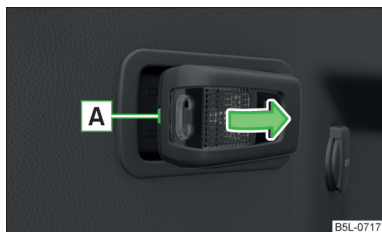

Fig. 185
- › Take out the light in the direction of arrow » Fig. 185 .